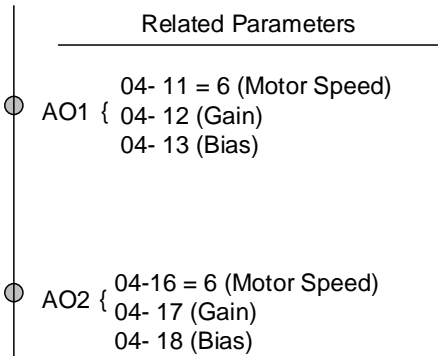

Figure 4.4.111 Analog output setting
- 4. See figure 4.4.111, observe the motor speed waveform and tune the gain at the same time.